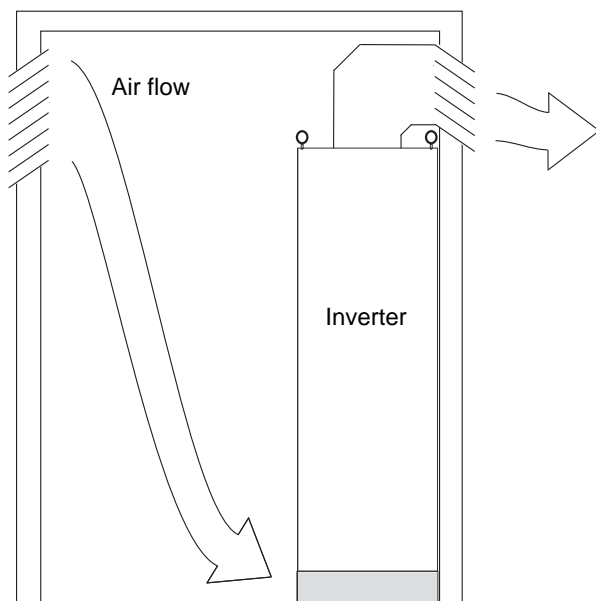

Figure 8: The incoming airflow must be separated from the outgoing airflow
- The CP100 inverter can produce up to 5kW power dissipation. Make sure that the hot air that is developed during operation will be discharged by forced ventilation when installing the CP100 inverter in a closed section. The airflow (forced cooling) is from the bottom of the cabinet to the top. To avoid circulation of hot air, measures must be taken to separate the incoming airflow from the outgoing airflow (see figure 8). Maximum volume: 1500m³/hour.